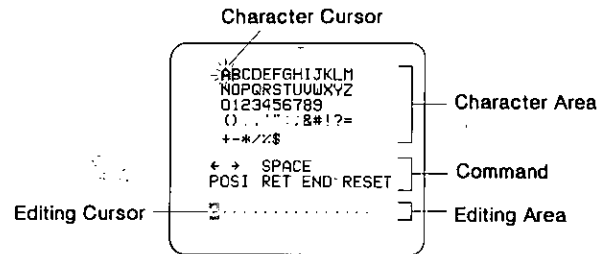

Fig. 23
- Move the cursor to the "CAMERA ID" mode position and press the Setup Mode Button (SET UP) to display the Character Editing menu as shown in Fig. 23.
- After completing the positioning of the camera ID, press the Setup Mode Button (SET UP) to return to the Character Editing menu as shown in Fig. 23.